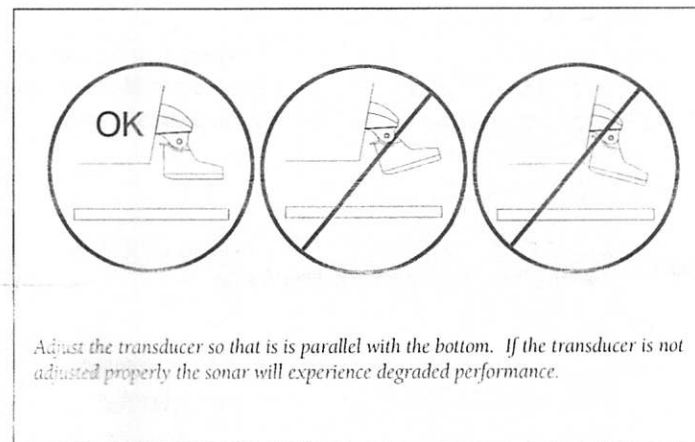

Figure 4
5. Attach the transducer assembly to the transom using the 5 x 30mm screws. Adjust the transducer to extend beyond the bottom of the transom approximately 1/8" (3 mm) on fiberglass hulls or 3/8" (10mm) on aluminum hulls. Eyeball the transducer to be aligned parallel with the water (see Figure 4).